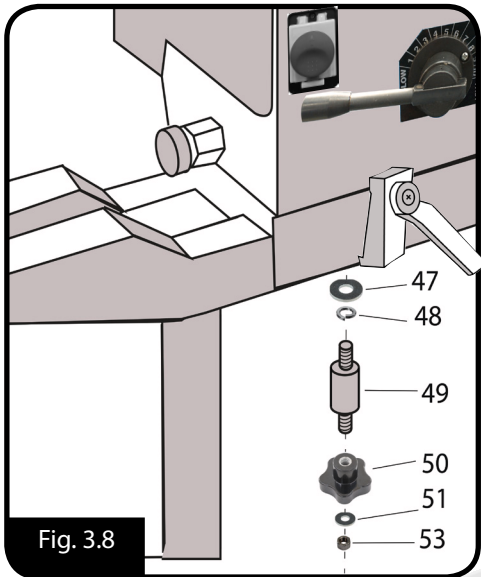

Fig. 3.8
3. The hand wheel can be fixed to the locking shaft using set screw {53} with washer [51]. (Fig.3.8)